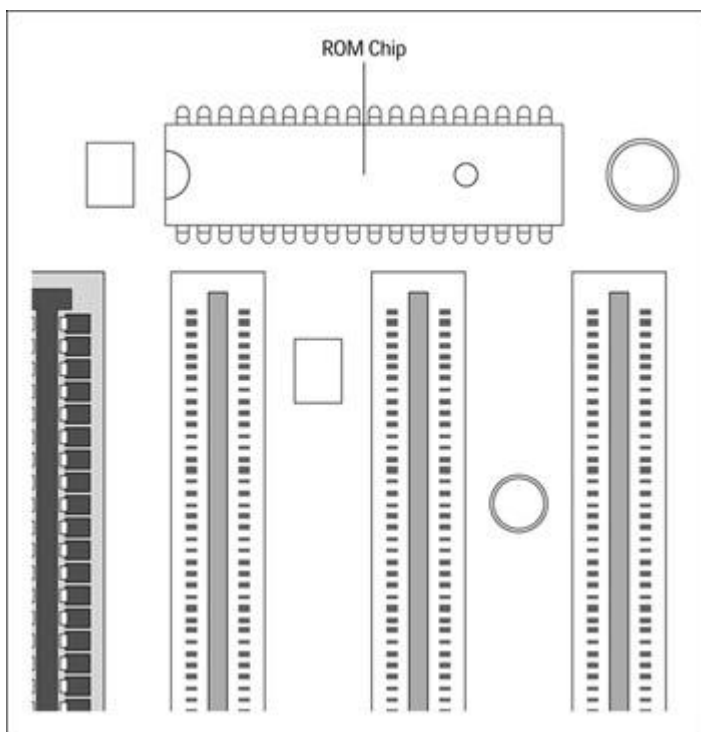

Figure 5-2: A ROM BIOS chip mounted on a PC motherboard.
- 1 **Read Only Memory (ROM):** Although not solely a BIOS chip, ROM chips are permanently loaded with instructions during the manufacturing processes. The instructions written to a ROM chip, which cannot be changed under any circumstance, are called *firmware*. No longer a common vehicle for the system BIOS, on earlier PCs, the BIOS was stored on a ROM chip (Figure 5-2).